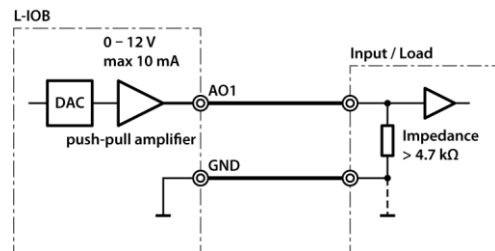

Figure 100: Analog outputs
Figure 100 shows the wiring of the analog outputs (AO). Observe that the analog outputs are labeled '0-10V OUT' but are in fact capable of delivering over 11V.